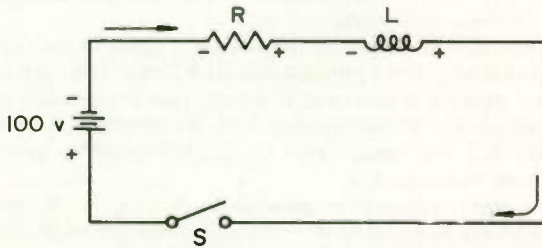

Fig. 38 Inductance and resistance across a voltage source.
Resistor R in the simple circuit of Fig. 38 could represent the resistance of the inductor, or it could be an actual resistor in series with L . In the latter case the resistance of L can be ignored, assuming it is much lower than R . When switch S is closed, current flows in the direction of the arrows, so that the voltage across R has the polarity shown. The current is zero before the switch is closed, so when the switch is closed, a voltage will be induced across L of such polarity as to try to keep the current zero; that is, of a polarity that bucks the battery voltage and tries to make current flow the opposite direction. This gives us the polarity shown for L in Fig. 38. If we walk around the circuit in the direction of the arrows, L represents a voltage drop, and it therefore opposes the voltage rise of the battery. At all times, the sum of the voltage drops across R and L must equal 100 volts, the voltage rise.
1. (a) If in Fig. 38 the voltage across R is 40 volts at a certain moment after the switch is closed, the voltage across L is _____ volts. (b) At the moment the switch is closed the current in the circuit is zero (although it starts at once to increase). Consequently, the voltage across L is _____ volts. (c) After the switch has been closed for some time the voltage across R is _____ volts and the voltage across L is _____ volts.